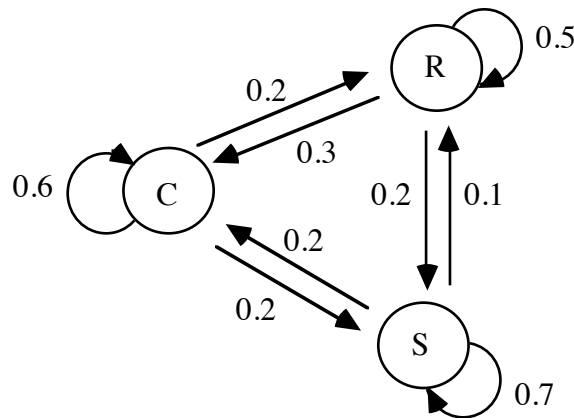

Figure 3: A transition diagram for the weather
For example, Figure 3 shows a transition diagram for three states of weather: cloudy (C), sunny (S), and rainy (R).
The directed edge from R to C in Figure 3, labeled 0.3, represents the probability of a transition from a rainy day to a cloudy day, or $P(C|R) = 0.3$. The loop about C, labeled 0.6, represents the probability of transition from a cloudy day to another cloudy day, or $P(C|C) = 0.6$.